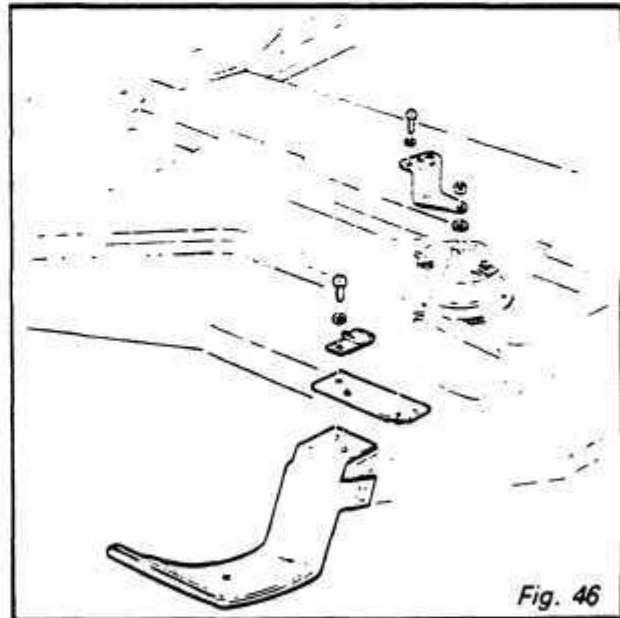

Fig. 46
6. Remove three bolts securing each radiator lower support bracket to the frame, disconnect the horn leads, and remove radiator brackets, horns and horn brackets Fig. 46.